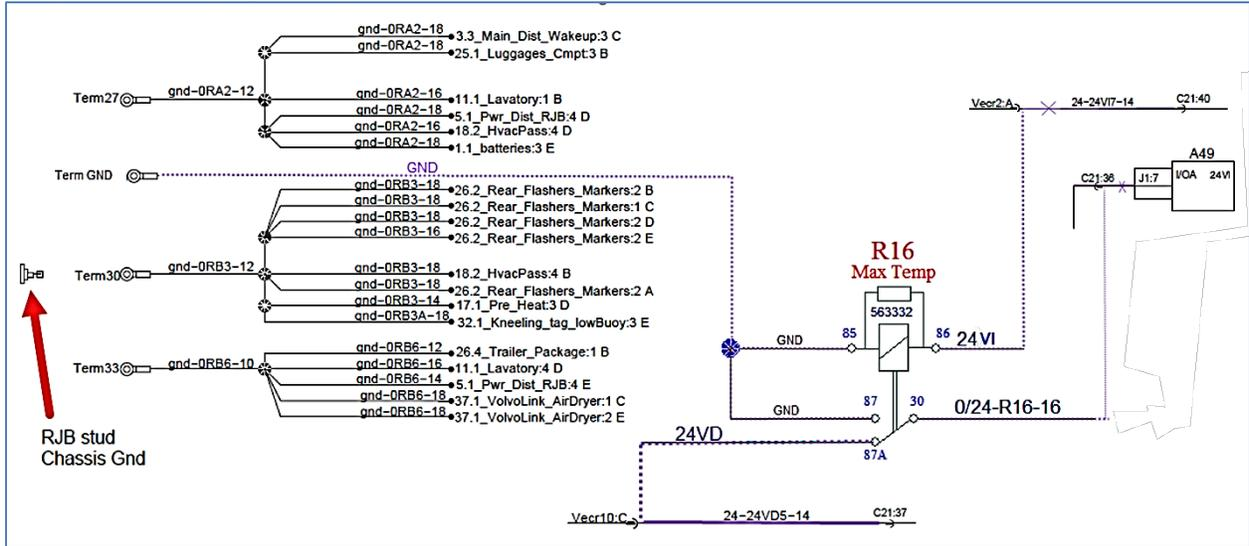

FIGURE 54
5. In the main power compartment: connect circuit 24VI of harness 0610219 to VECR connector 2 (red) pin A cavity or pin E cavity depending on the model year (Figure 54).
6. Inside the main power compartment: connect circuit 0/24 of harness 0610219 to connector C21 pin 36 cavity (pin housing side) (Figure 54).
7. Inside the main power compartment: splice circuit 24VD of harness 0610219 with circuit 24VD5 (Figure 54) using butt splice 562228. Take note that 24VD5 is routed between connector C21 pin 37 cavity and VECR connector 10 pin (yellow) pin C cavity.
8. Inside the main power compartment: connect circuit GND of harness 0610219 to the chassis ground stud (Figure 54).